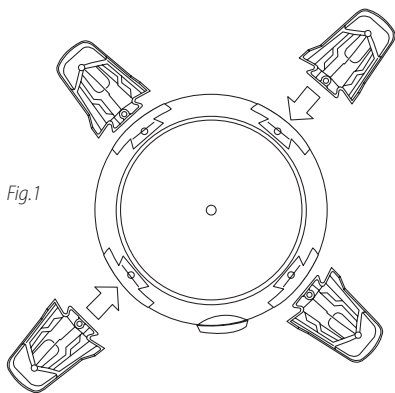

Fig.1
2. Take caster feet **5** and place into slots on tank. **Fig. 1**.